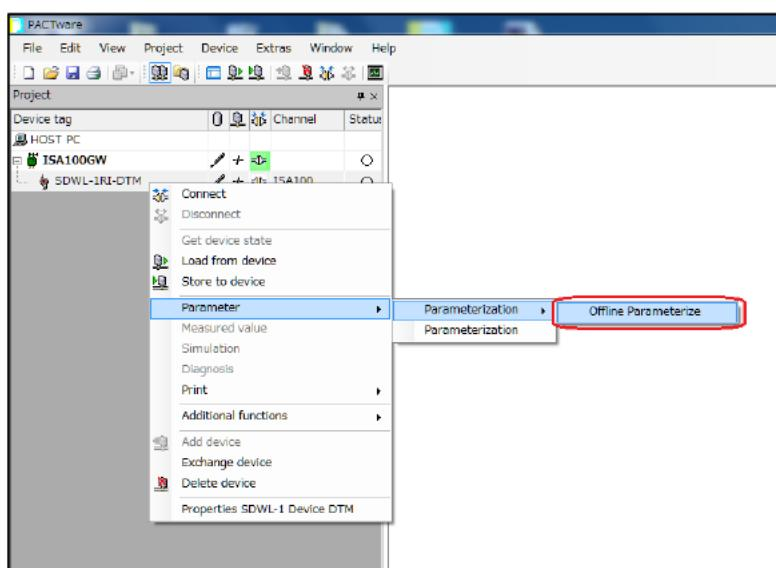

Figure 5-36 Selecting “Offline Parameterize” menu
- ① Follow the instructions in the previous section (for launching online) as far as step ⑪.
- ② Right-click the SDWL-1 (tag name) in the tree menu on the left side of the main window, then select “Offline Parameterize”. (Figure 5-36)